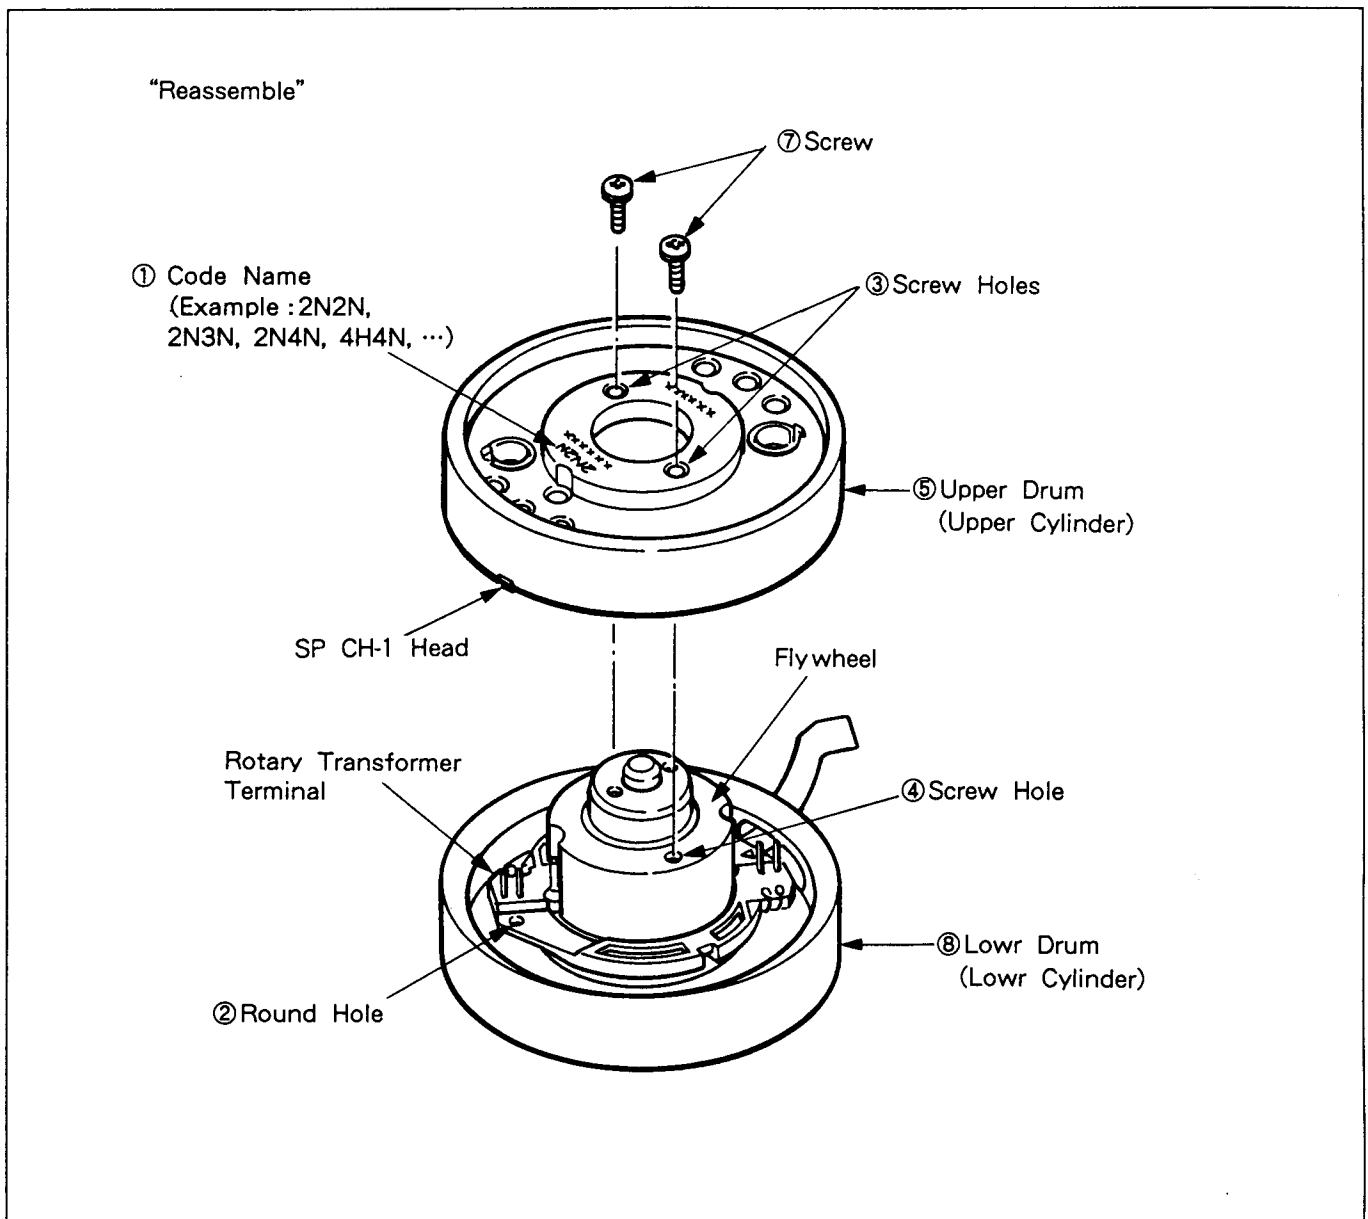

Fig. 2-11-6.
2. Remounting (See Fig. 2-11-6.)